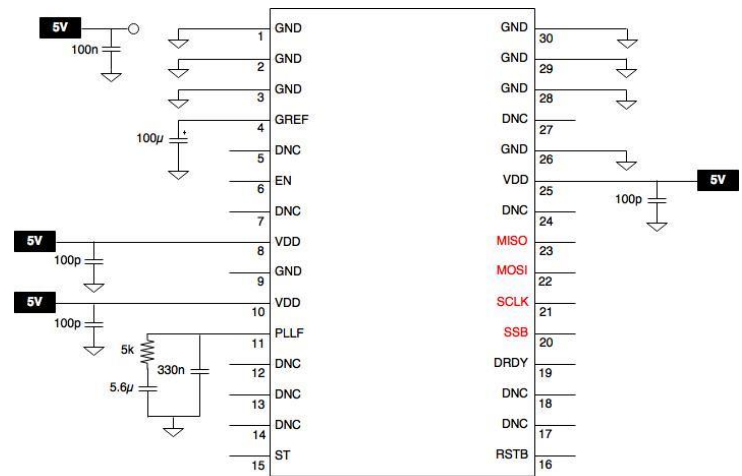

Figure 16: Recommended Application Schematic (top view)
- All capacitances of Figure 16 should be placed as close as possible to their corresponding pins, except the 100nF capacitance between VDD and GND, which should be as close as possible to the board's supply input.